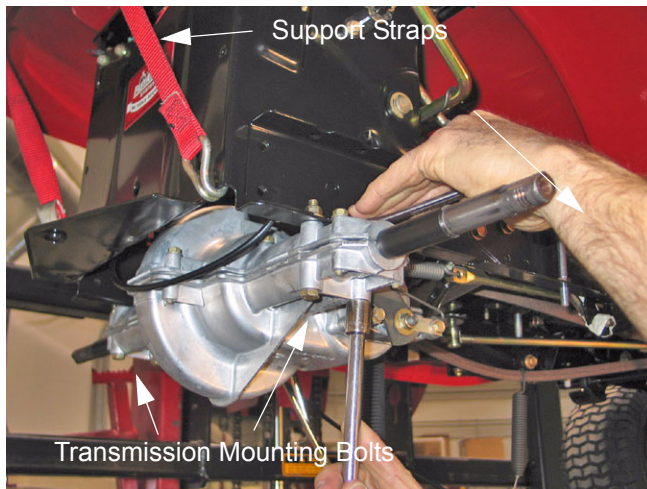

Figure 48
- 11.9. Using a $\frac{1}{2}$ " socket, remove the four bolts, lock washers and nuts securing the transmission to the frame. See Figure 48.